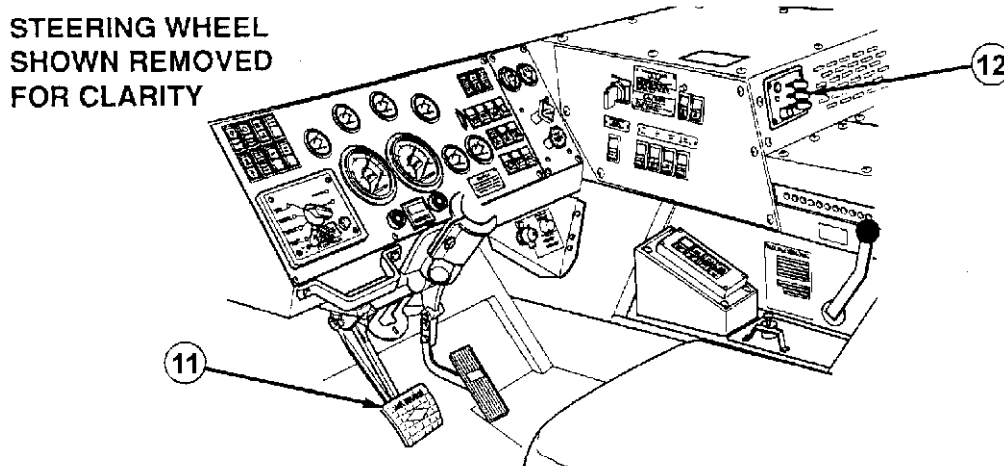

Figure 12. 15 Windscreen De-mist Controls
- m. Keep the throttle control (Figure 12. 14. (10)) steady when the slide frame is being opened or closed.